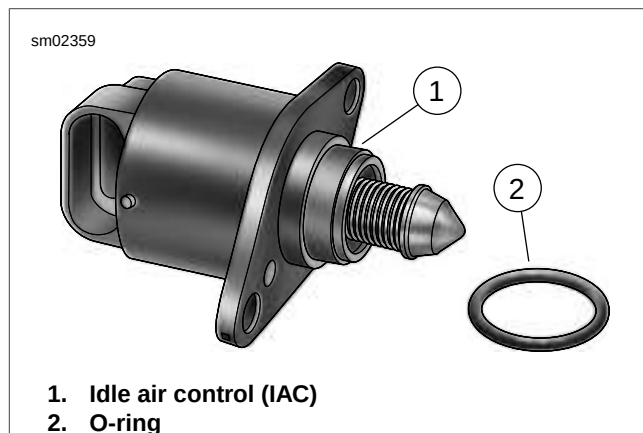

Figure 4-22. Idle Air Control
3. See Figure 4-22. Pull IAC (1) and O-ring (2) from throttle body.
1. See Figure 4-22. Apply **clean** engine oil to IAC O-ring (2). Install O-ring in counterbore of induction module.